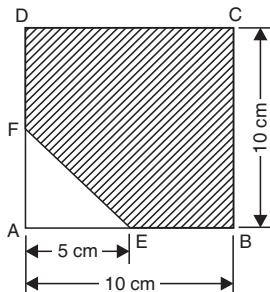

Fig. 7.48
11.  $ABCD$  is a square piece of paper of side  $10 \text{ cm}$  and  $E$  and  $F$  are mid-points of  $AB$  and  $AD$ . Find the c.g. of the portion left when  $\triangle AEF$  is cut off as shown in Fig. 7.48. **[Ans.**  $\bar{x} = 5.476 \text{ cm}$ ;  $\bar{y} = 5.476 \text{ cm}$ ]